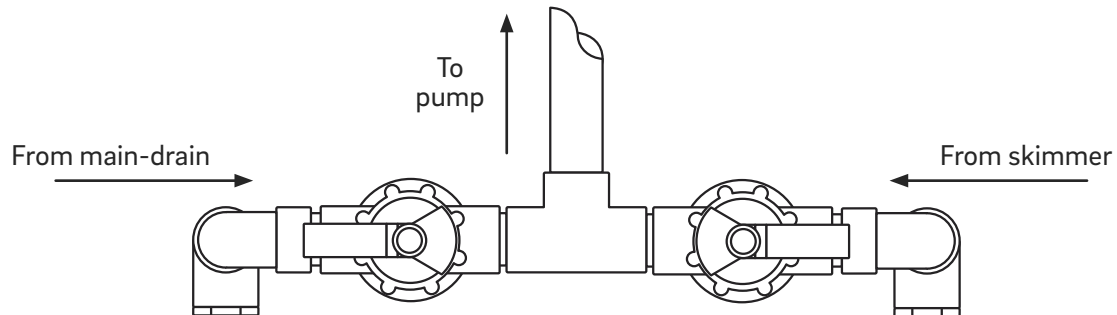

Figure 21
1. In order to evacuate the lines during the winterization process it is recommended that a 2-Way shut-off valve be installed on each suction branch-line preceding the main line feeding the pump (Figure 21).